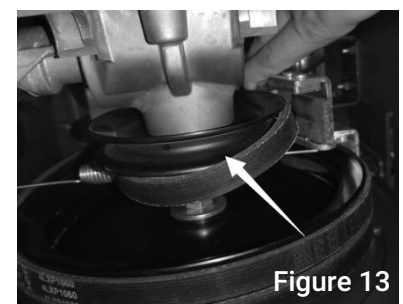

Figure 13
6. Press the drive control lever to release the brake on the belt, then pull the drive belt out from belt pulley, and take it out. See Figure 13.
8. Slip the drive belt back to belt pulley. See Figure 13.